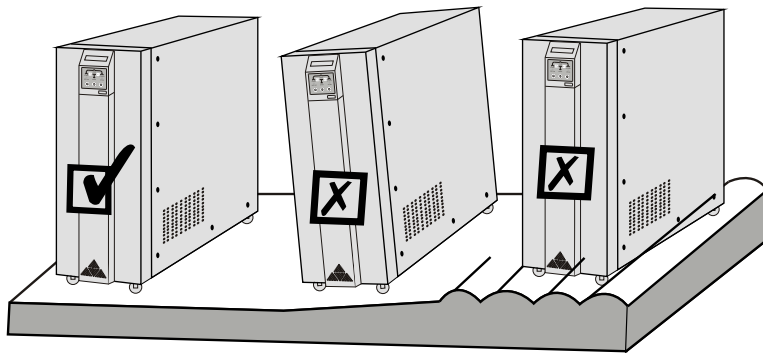

Figure 3
1. Do not place the UPS on the slope or scraggy land. (Figure 3)